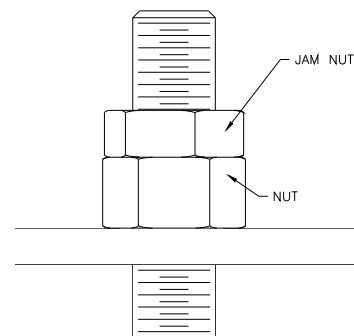

Fig 11c-Cable Trapping
- 20) Secure the cables with the nut and jam nut provided, **Fig 11c**.